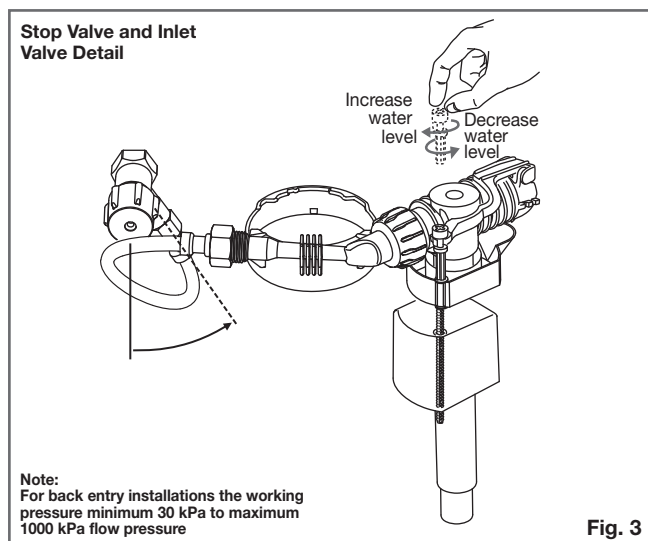

Fig. 3
- 5- Fit cistern stop valve (supplied) to the 1/2" B.S.P. nipple in the wall using approved thread seal, in the downward angled position as detailed in Fig. 3. Connect one end of flexible hose to cistern stop valve.
- 9- Adjust water level to the 4.5 litre water level mark inside the cistern by simply turning the float arm screw in a clockwise or anti-clockwise direction as detailed in Fig. 3.